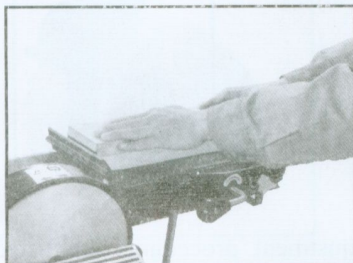

Fig 9
2. Place the workpiece flat on the belt. Be sure to hold the work securely with both hands. Place one hand at the end of the workpiece to feed it against the rotation of the belt, and one hand lightly on top of the piece to ensure adequate stock removal. (fig 9).